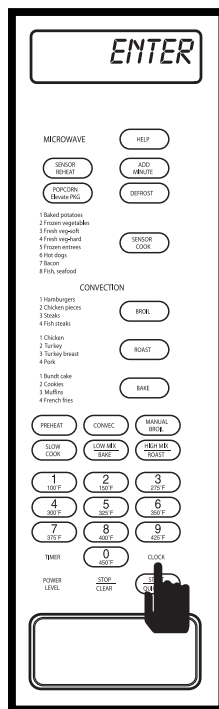

Figure 3-22.
1. Press the CLOCK key and “ ENTER - TIME ” will flash on display (See Figure 3-22).